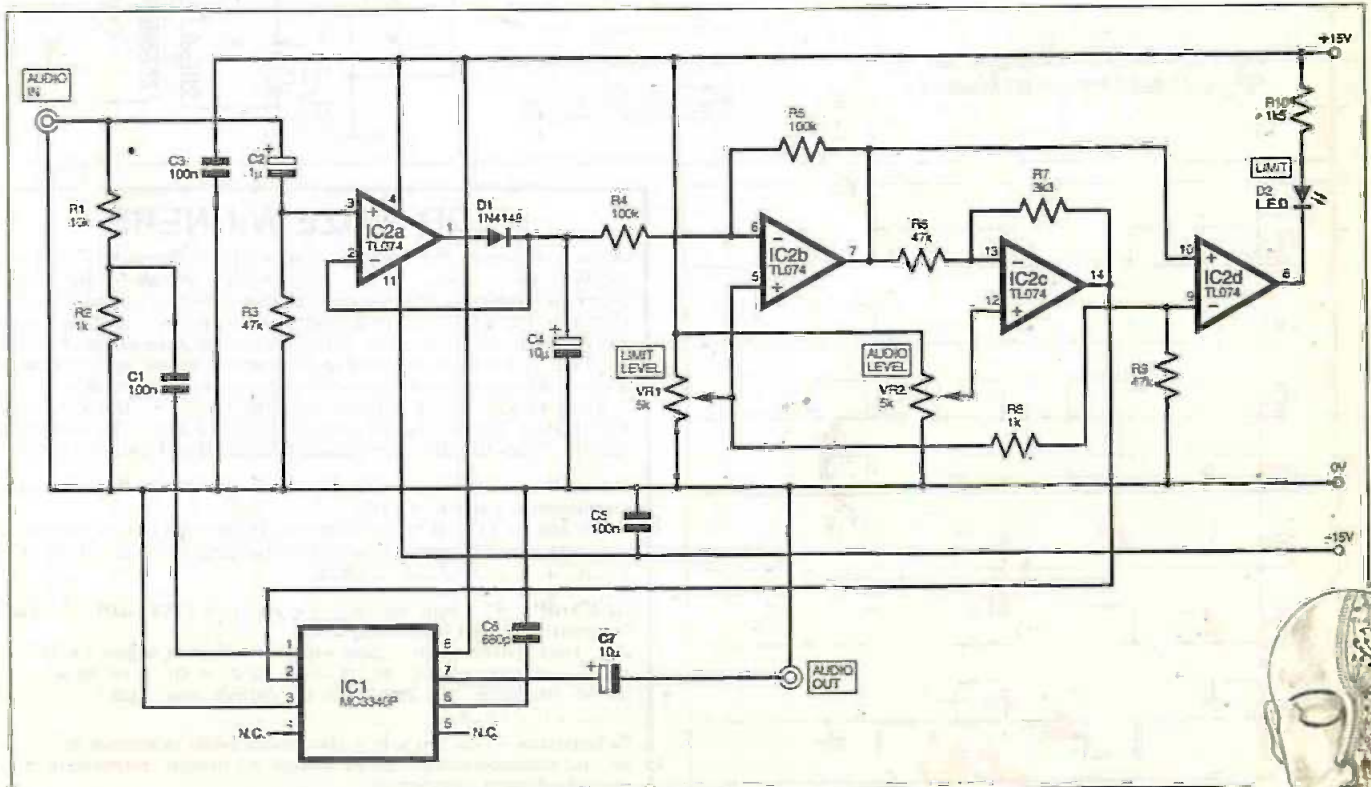

Fig.10. Circuit diagram for an Audio Limiter.
**A**N AUDIO limiter circuit was required which would accept a wide input voltage range without introducing too much distortion when limiting. The circuit of Fig. 10 achieves this as well as allowing a variable limit level and output level. The circuit could be used in many areas, particularly in limiting the signal applied to an audio power amplifier, protecting those valuable tweeters!